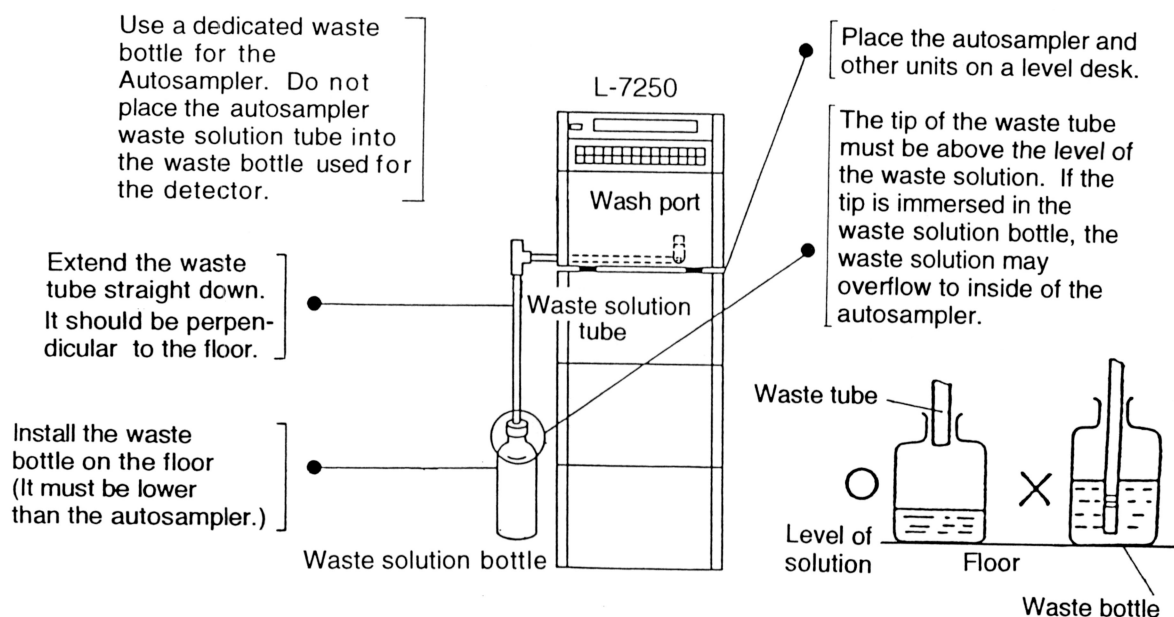

Figure 1-5 Waste Bottle and Waste Tube
- For normal flow of waste solution, be sure to follow the instructions given in Figure 1-5.